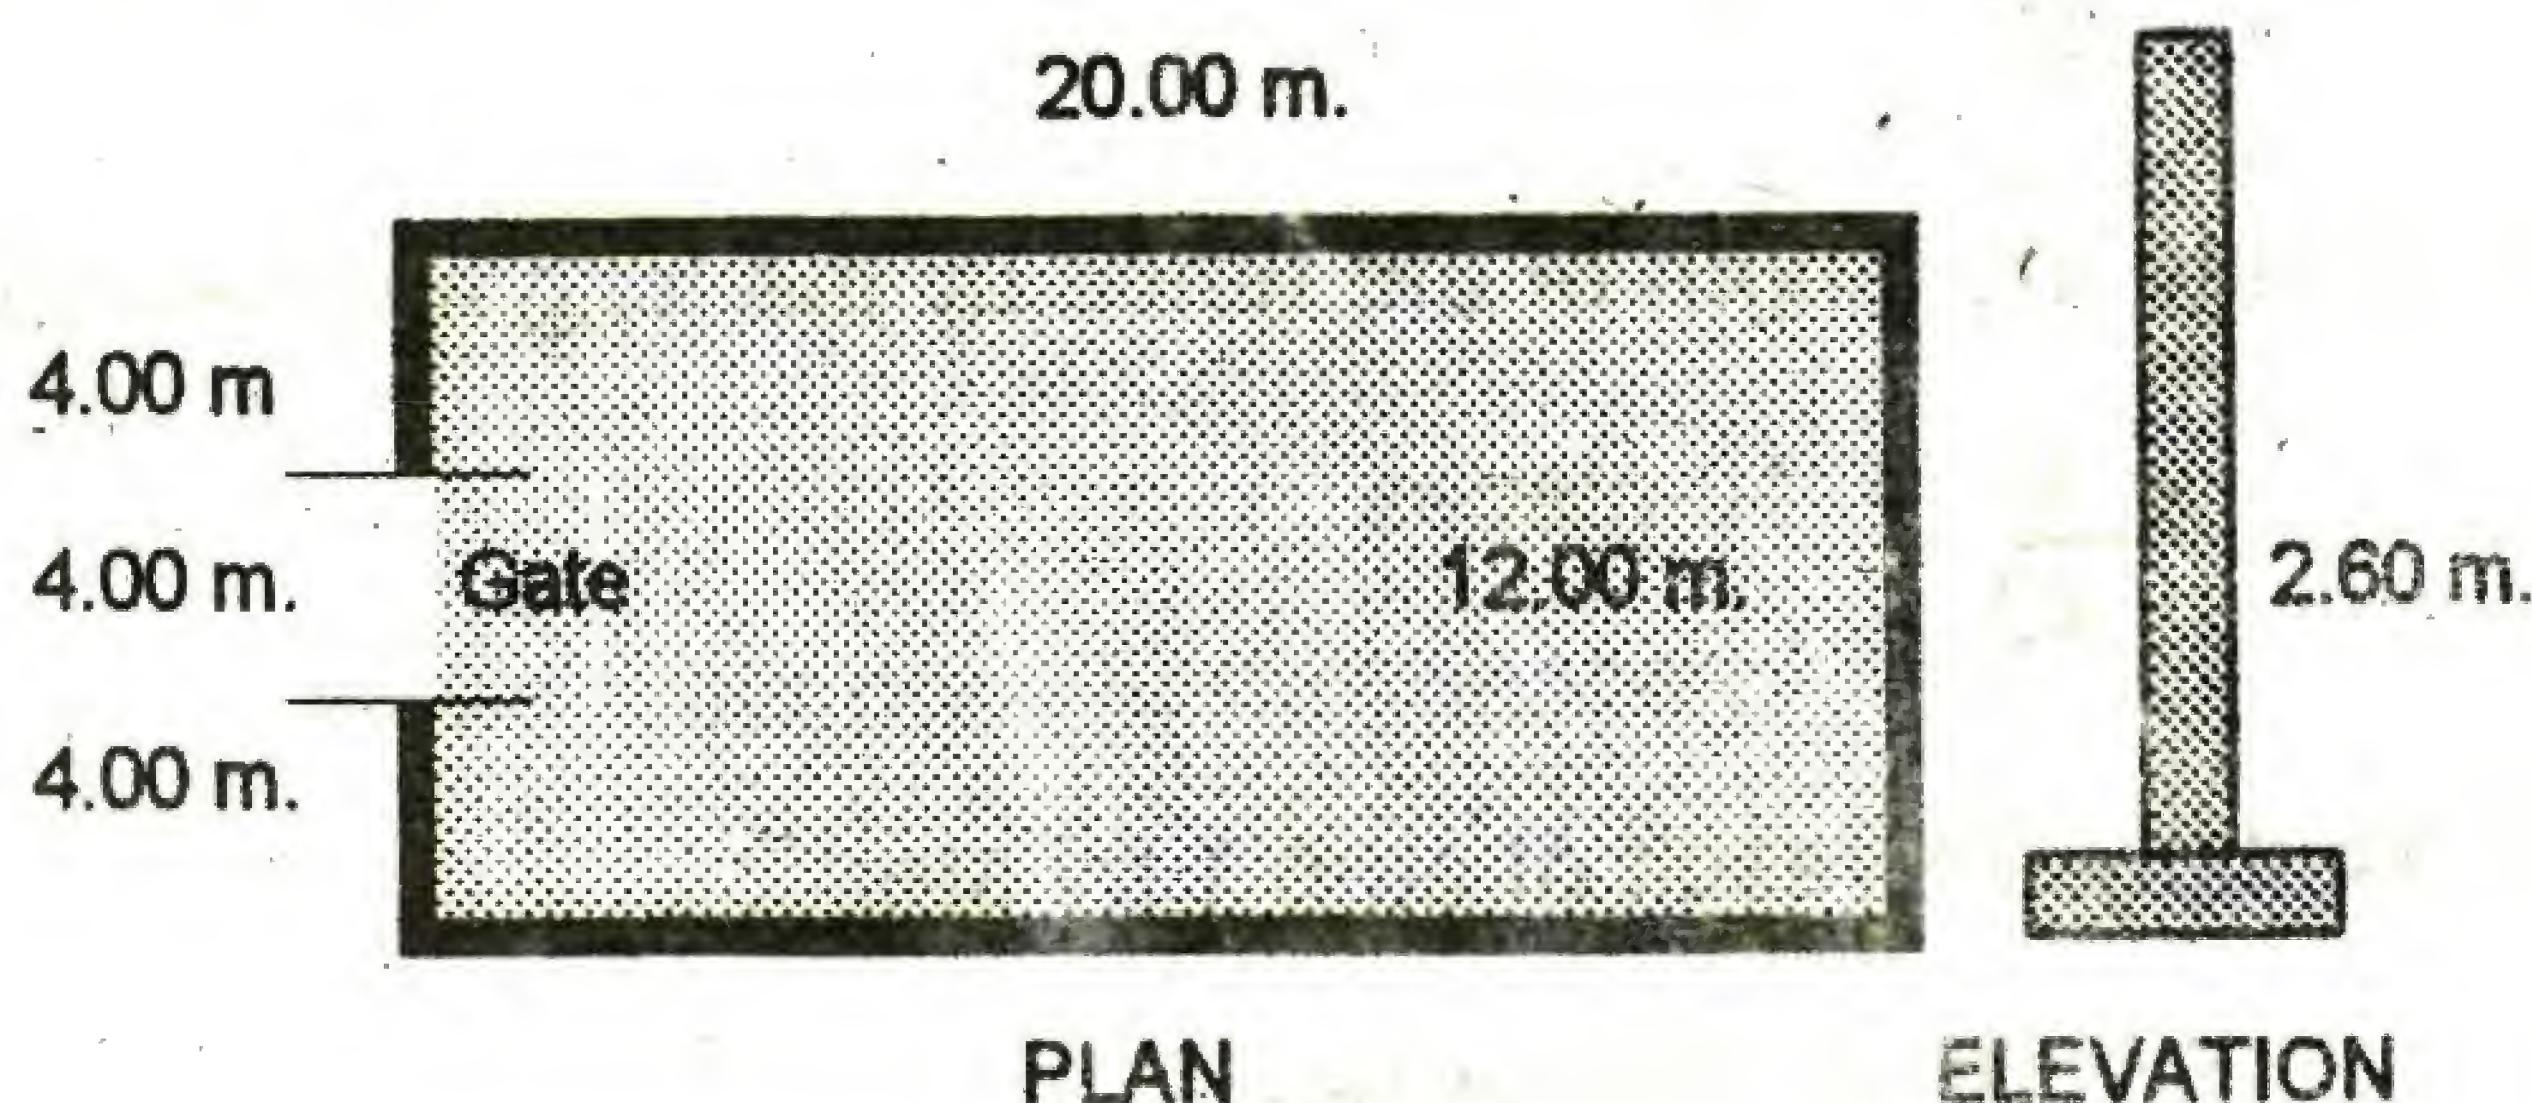
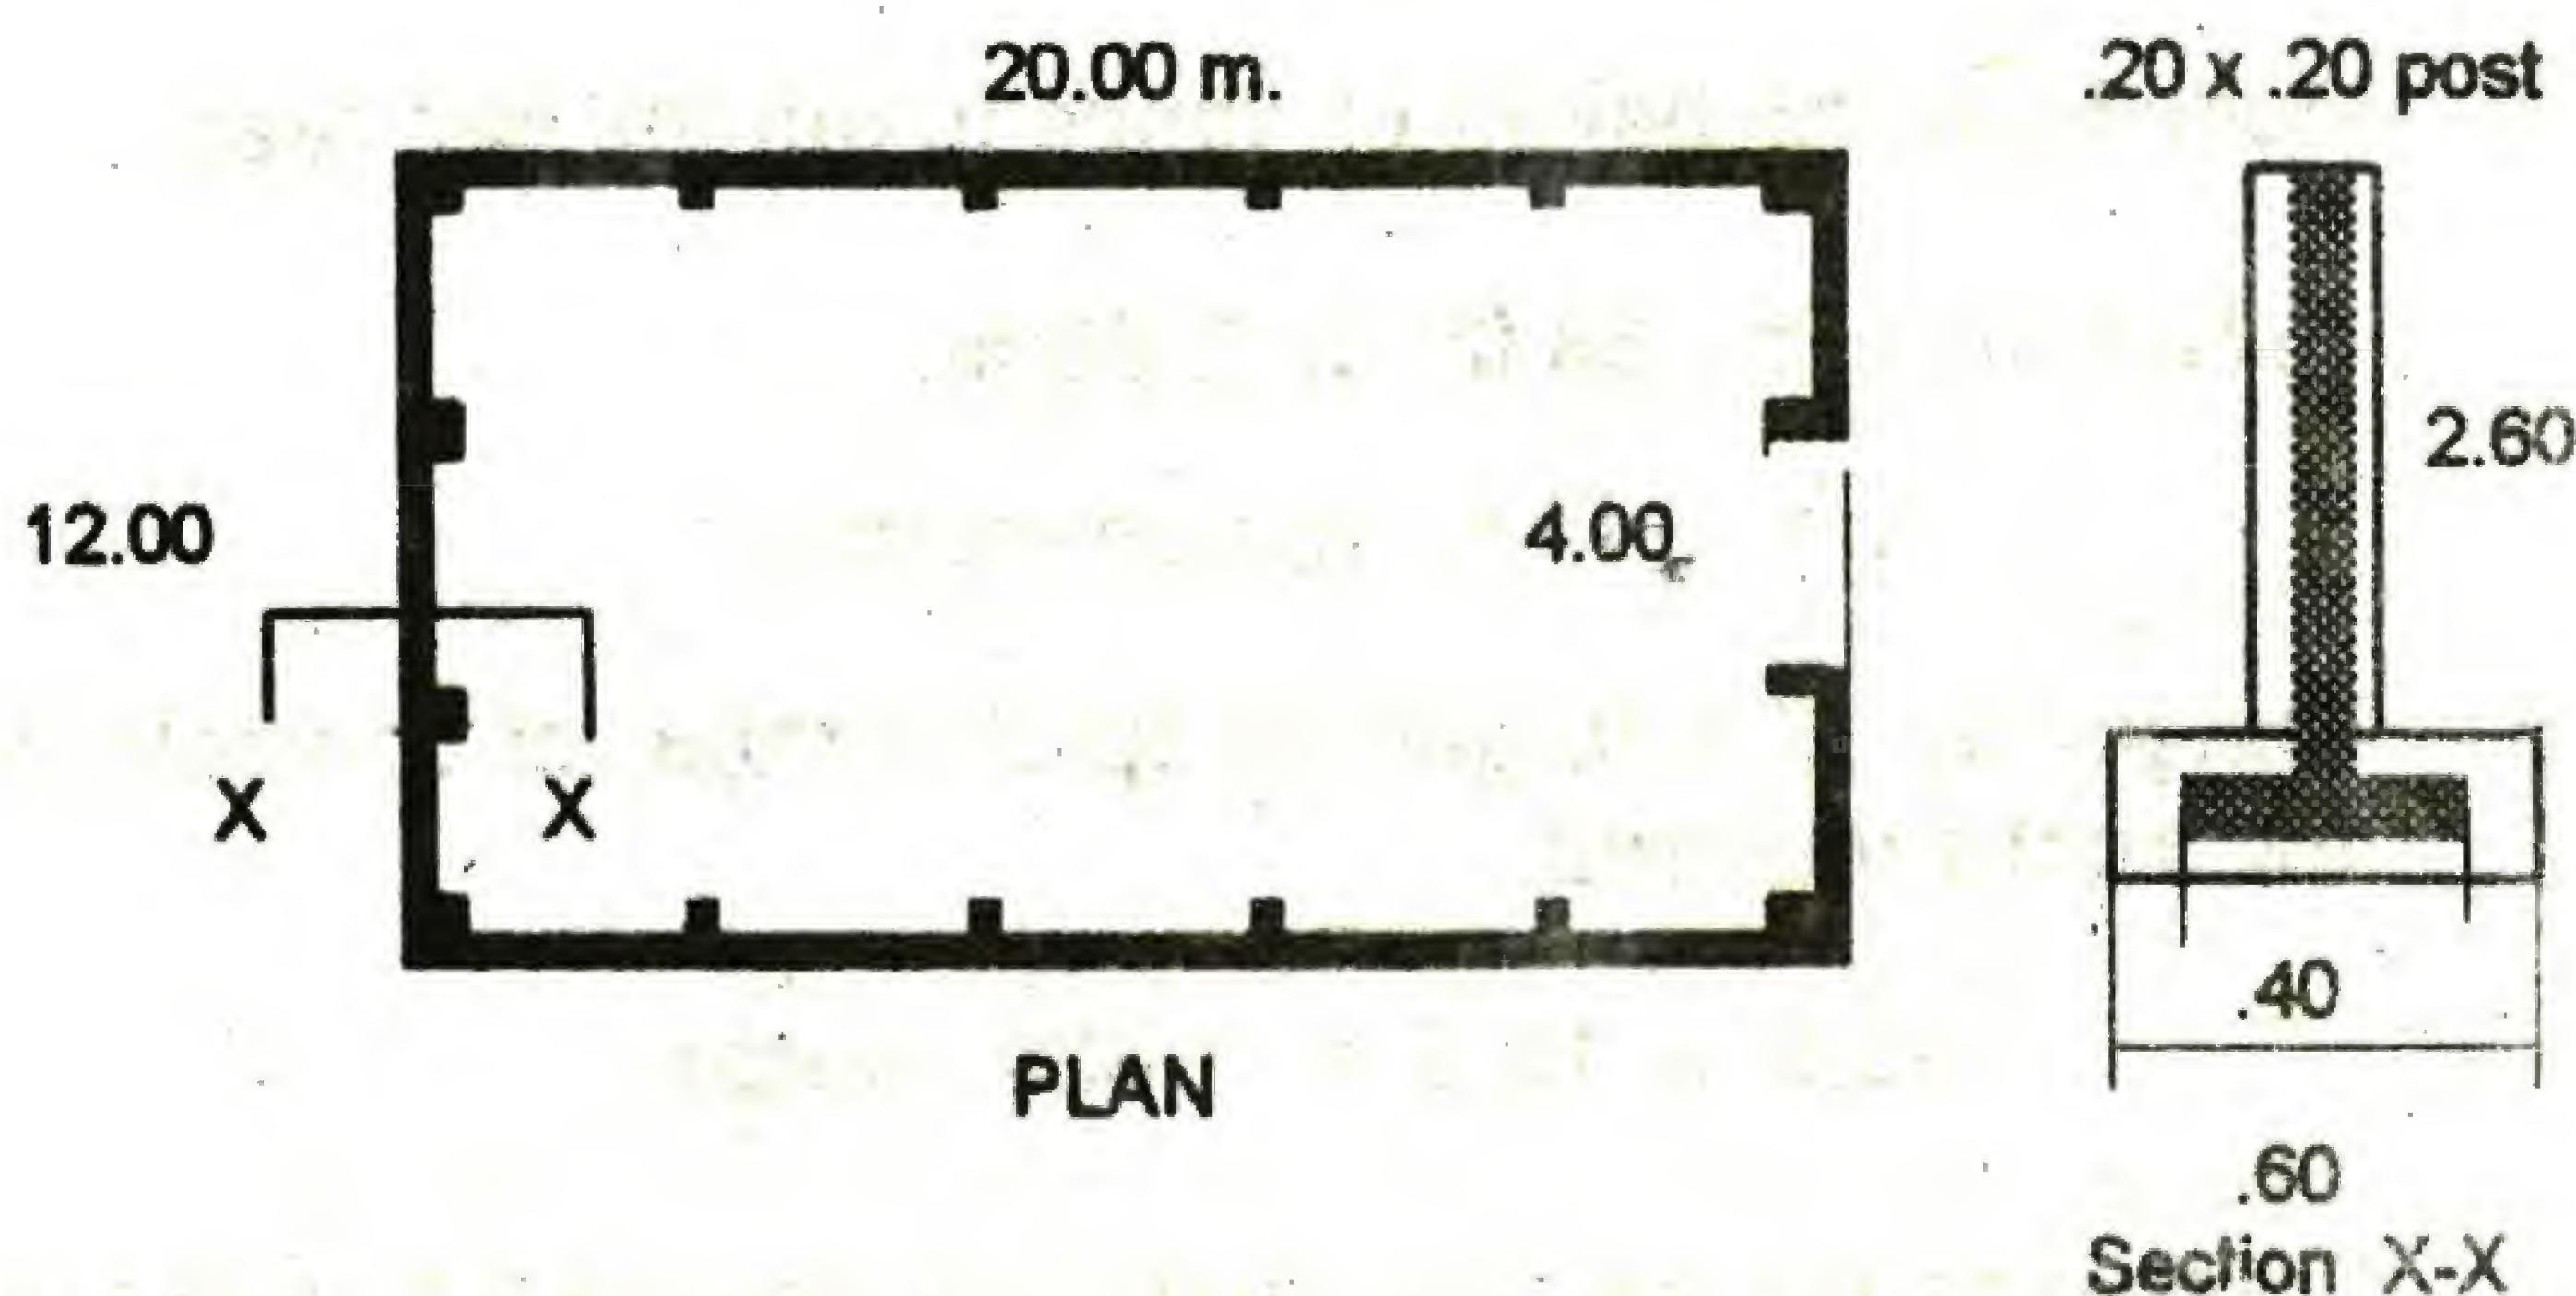

FIGURE 2-4 CHB FENCE
FIGURE 2-5 CHB FENCE
From the following Figure 2-4, find the number of 4" x 8" x 16" concrete hollow blocks to construct the fence.
2. Take note that in the above example, we computed the number of hollow blocks without posts. Suppose that Figure 2-4 was provided with the necessary posts as indicated in Figure 2-5, in this case, the area covered by the post will be subtracted from the total area of the wall, then solve for the CHB adopting the area method for simplicity of the process.
From Figure 2-5, using class B mixture find the number of: